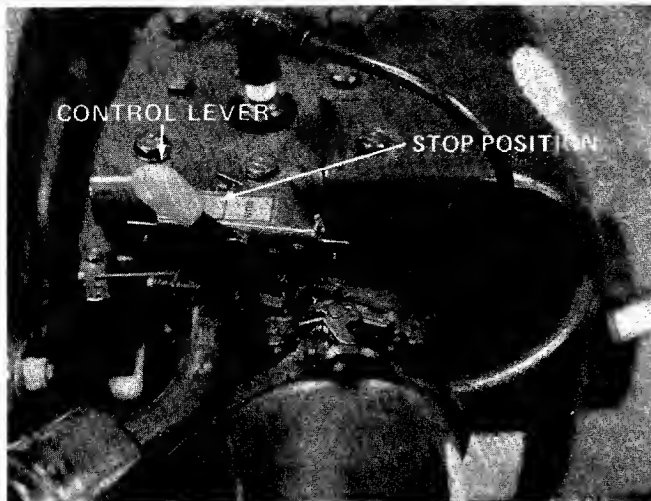

FIGURE 8 - TECUMSEH ENGINE
1. Move control lever to "STOP" position. See figure 8.